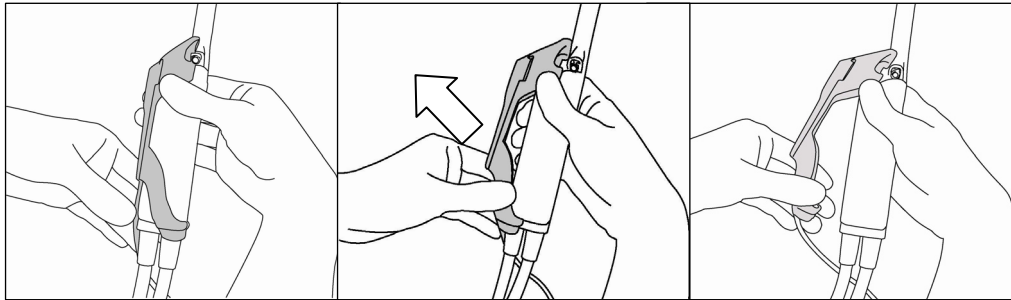

Fig.8 How to release the Magnetic sensor attachment from the probe
- 1) Detach the Magnetic sensor attachment from the probe as shown in Fig.8.